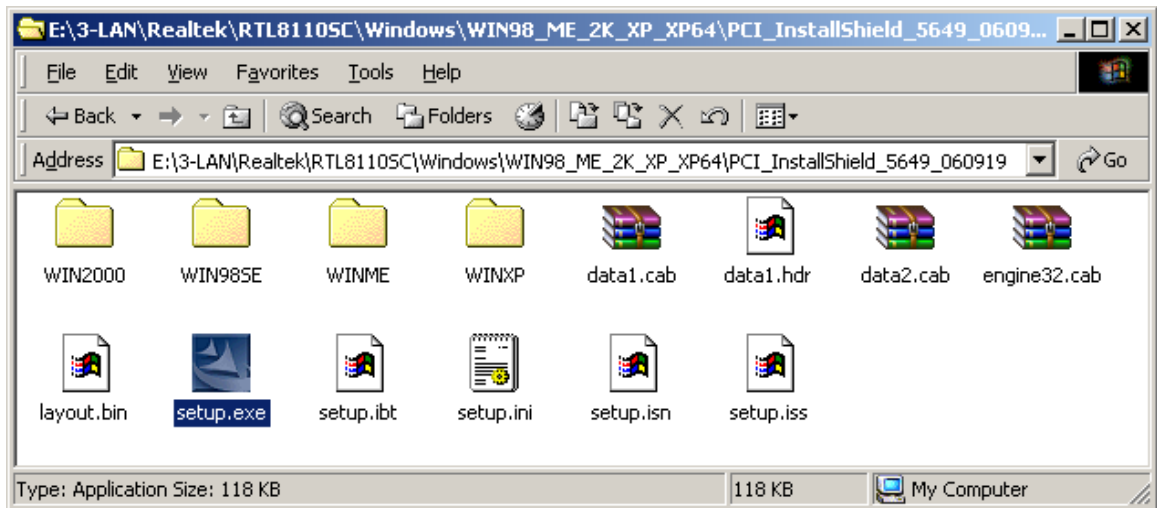

Figure 7-30: PCI_InstallShield_5649_060_919 Folder
Step 7: Double-click the **PCI_InstallShield_5649_060_919** folder and a new window opens (Figure 7-30).